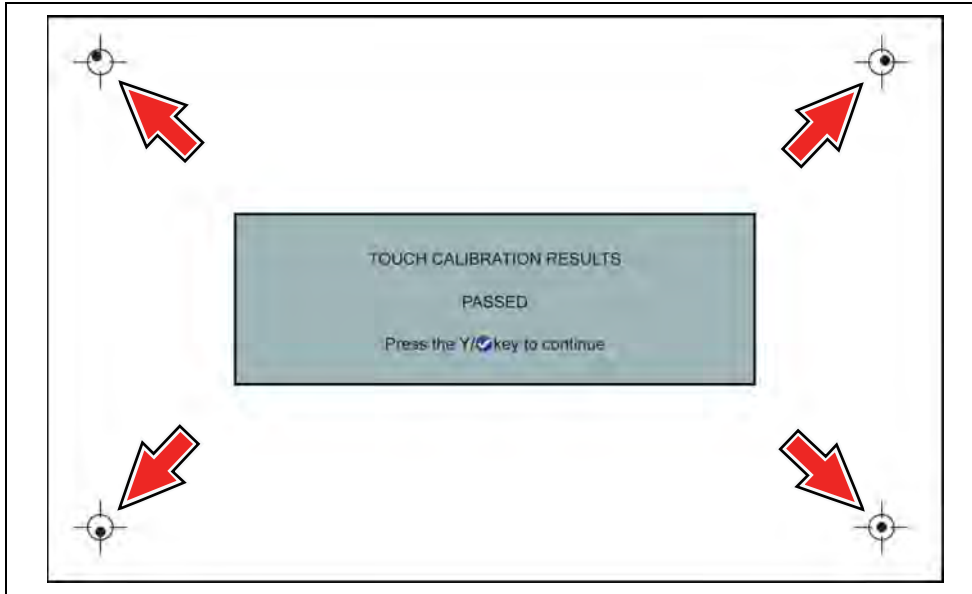

Figure 13-7 Touch screen calibration - Passed
- If the calibration is successful, the “Touch Calibration Results - Passed” screen is displayed (Figure 13-7). Press the **Y** button to complete the process and return to the Display menu.
- The results screen (Figure 13-7) shows the entered calibration of each indicator. Ideal calibration would be to select each indicator exactly in the center, however selection inside the displayed circle is acceptable. If selecting the center is difficult using your finger, use a touch screen stylus (not included).